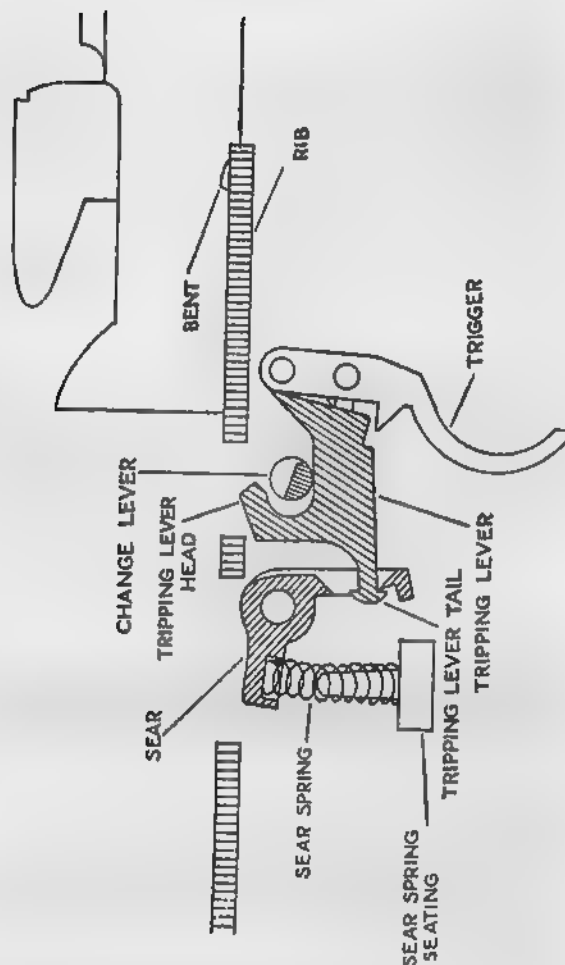

Fig 27.—The trigger pressed with the change lever at "A"
2. **Automatic.**—When the change lever is at "A" (see Fig 27):—